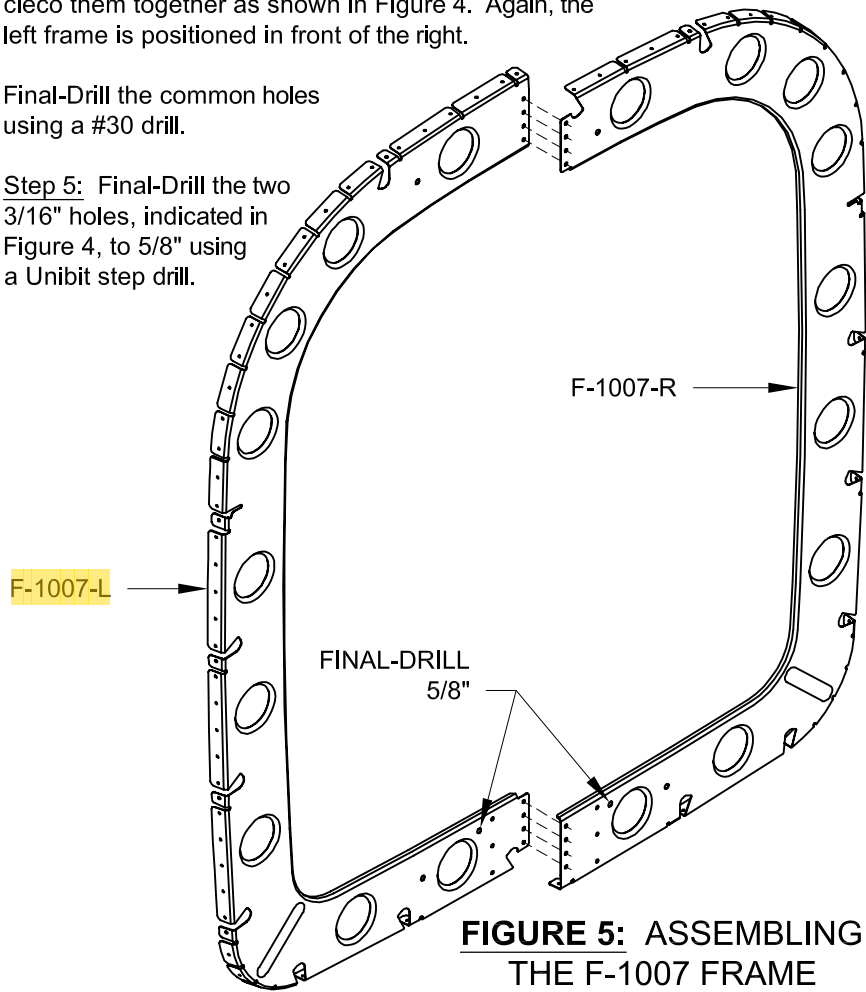

**FIGURE 4: ASSEMBLING THE F-1008 FRAME**
Step 4: Deburr and flute the **F-1007-L** & -R Frames, then cleco them together as shown in Figure 4. Again, the left frame is positioned in front of the right.
Step 5: Final-Drill the two 3/16" holes, indicated in Figure 4, to 5/8" using a Unibit step drill.